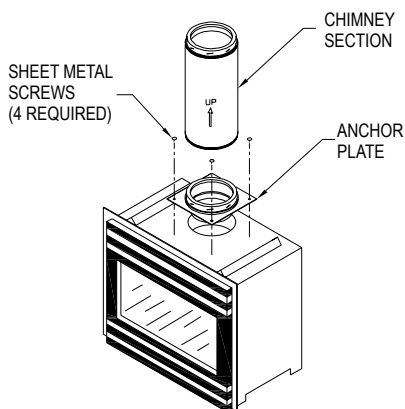

Figure 31
2. Anchor Plate: Attach an Anchor Plate to the fireplace top with (4) 5/8" sheet metal screws (**Fig 31**). Check with the appliance manufacture about the use of high temperature sealants.